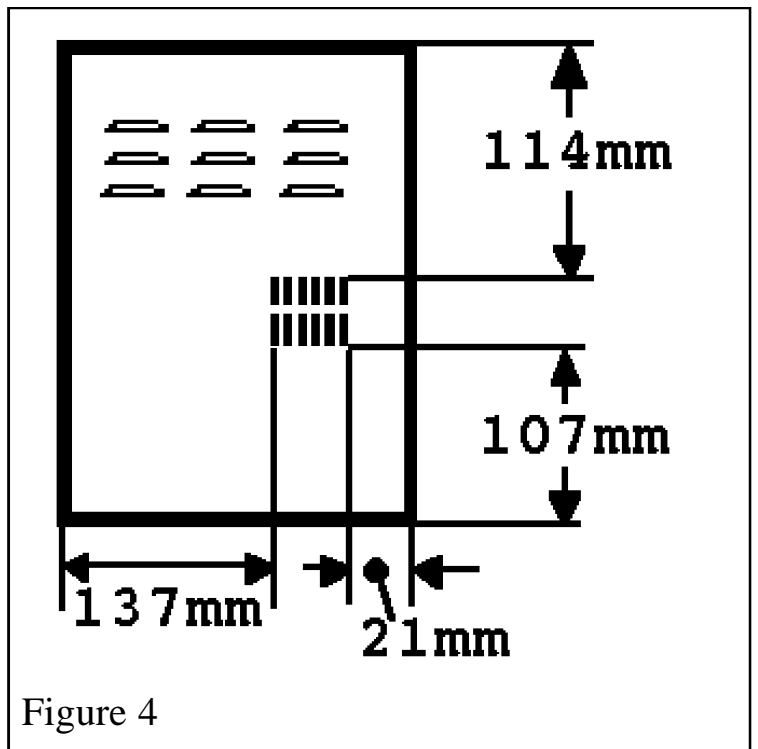

Figure 4
Minimum distances for terminal positions shown in the table are from slot openings. (See Figure 4)
*Note: The distances are from the edge of the vertical exit slots in the terminal not from the edges of the rectangular box (See figure 4).*